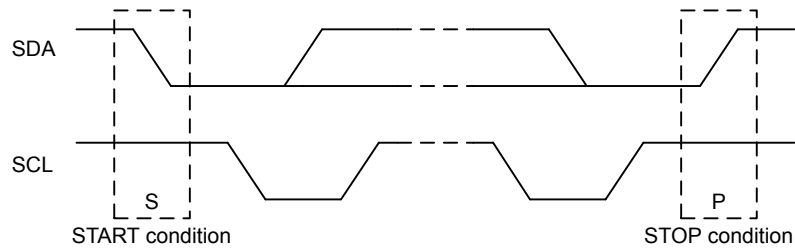

Figure 23.4. I2C START and STOP Conditions
START and STOP conditions are used to initiate and stop transactions on the I²C-bus. All transactions on the bus begin with a START condition (S) and end with a STOP condition (P). As shown in Figure 23.4 I2C START and STOP Conditions on page 674, a START condition is generated by pulling the SDA line low while SCL is high, and a STOP condition is generated by pulling the SDA line high while SCL is high.